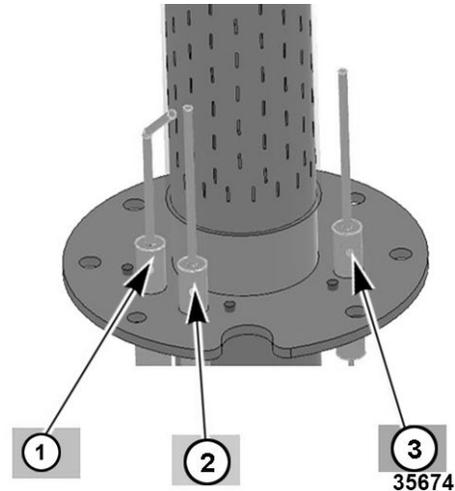
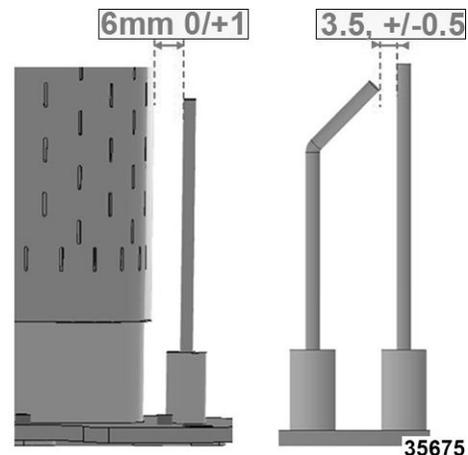

Fig. 126
Fig. 127
3. Measure dimensions as shown in Fig. 126 and Fig. 127.